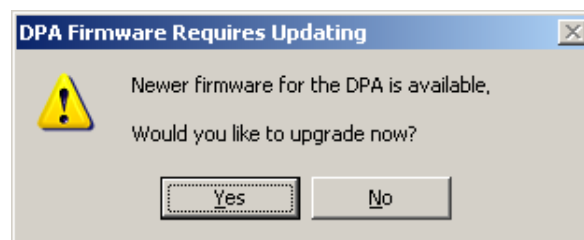

Figure 6.1. DPA Firmware Out of Date Dialog Box
After you have finished installing the Windows device drivers (Step 5 of 6) you can begin using your DPA. If the **Automatic Firmware Update** option is on (by default, it is), every time you connect to the DPA, the drivers check to see if a newer version of firmware is available on the hard drive. If a newer version is available the user will be prompted (see Figure 6.1) to upgrade to that version. If the user selects **Yes**, the upgrade process begins automatically. When the upgrade process is complete, the connect sequence for that application will continue. Most applications can handle the delay; however there is a possibility that the user may have to restart their application.
4. You will then receive the dialog box in Figure 6.1 which will allow you to upgrade the firmware.